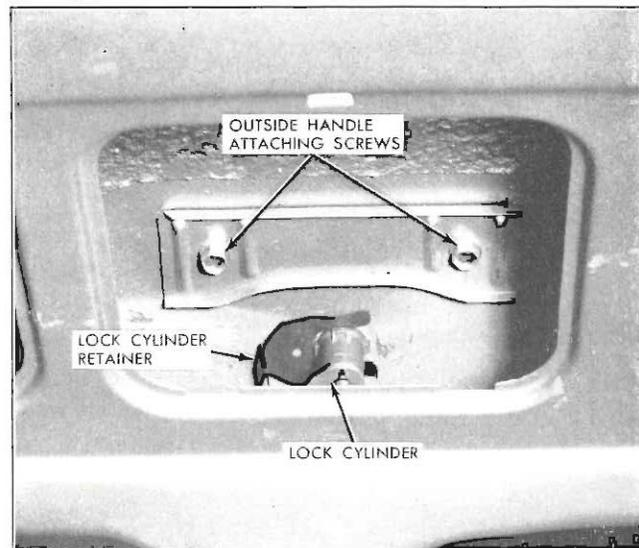

Fig. 7—Back Door Outside Handle and Lock Cylinder
- Using a hooked tool or other suitable tool, through access holes in door inner panel, pry out lock cylinder retaining clip (see Fig. 7) sufficiently to allow removal of lock cylinder and gasket from outer panel.
- Remove two (2) screws securing outside handle (see Fig. 7) and remove handle and gaskets.
- To install back door outside handle, first cement handle gaskets to handle with weatherstrip adhesive (black) and apply a coat of adhesive to surface of gaskets which contact door outer panel (see Fig. 7); then, reverse removal procedure.